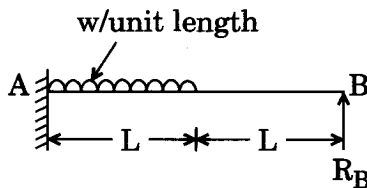

Figure 6
8. A propped cantilever beam of span L carries a uniformly distributed load of w per unit run as shown in Figure 6. Show that the reaction on the prop is $\frac{7 wL}{64}$. 14